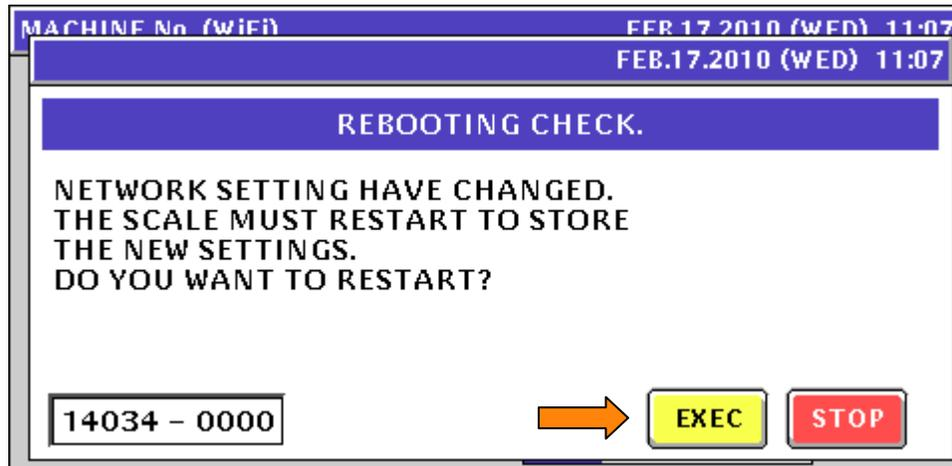

Figure 4.3. Reboot the Scale to Save the Ethernet Settings
14. Press **EXEC** at the Re-Boot Check screen (message 14034-0000). See Figure 4.3.